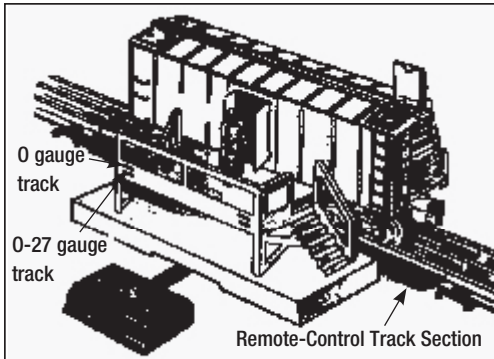

Figure 1. Platform installation
**T**he figure inside the milk car will unload the cans onto the platform. Follow these steps and refer to Figure 1 as you install the platform.
2. Position the platform next to the Remote-Control Track section as illustrated in Figure 1. You may choose to run the track controller wires under the platform.
3. Install the stamped metal deck so that the floor of the milk car is even with the deck of the platform. Use the slots in the side of the platform to make the proper alignment. Refer to Figure 1 on page 2.